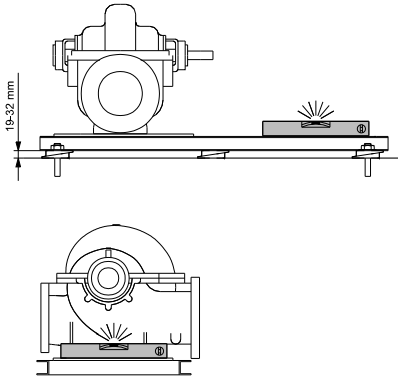

Fig. 5 Shimming of base frame and levelling of pump
1. Lift/jack up the base frame to the final level 19-32 mm above the concrete foundation, and support the base frame by means of blocks and shims, both at the anchor bolts and midway between bolts. See fig. 5.
2. Level the base frame by adding or removing shims under the base frame. See fig. 5.